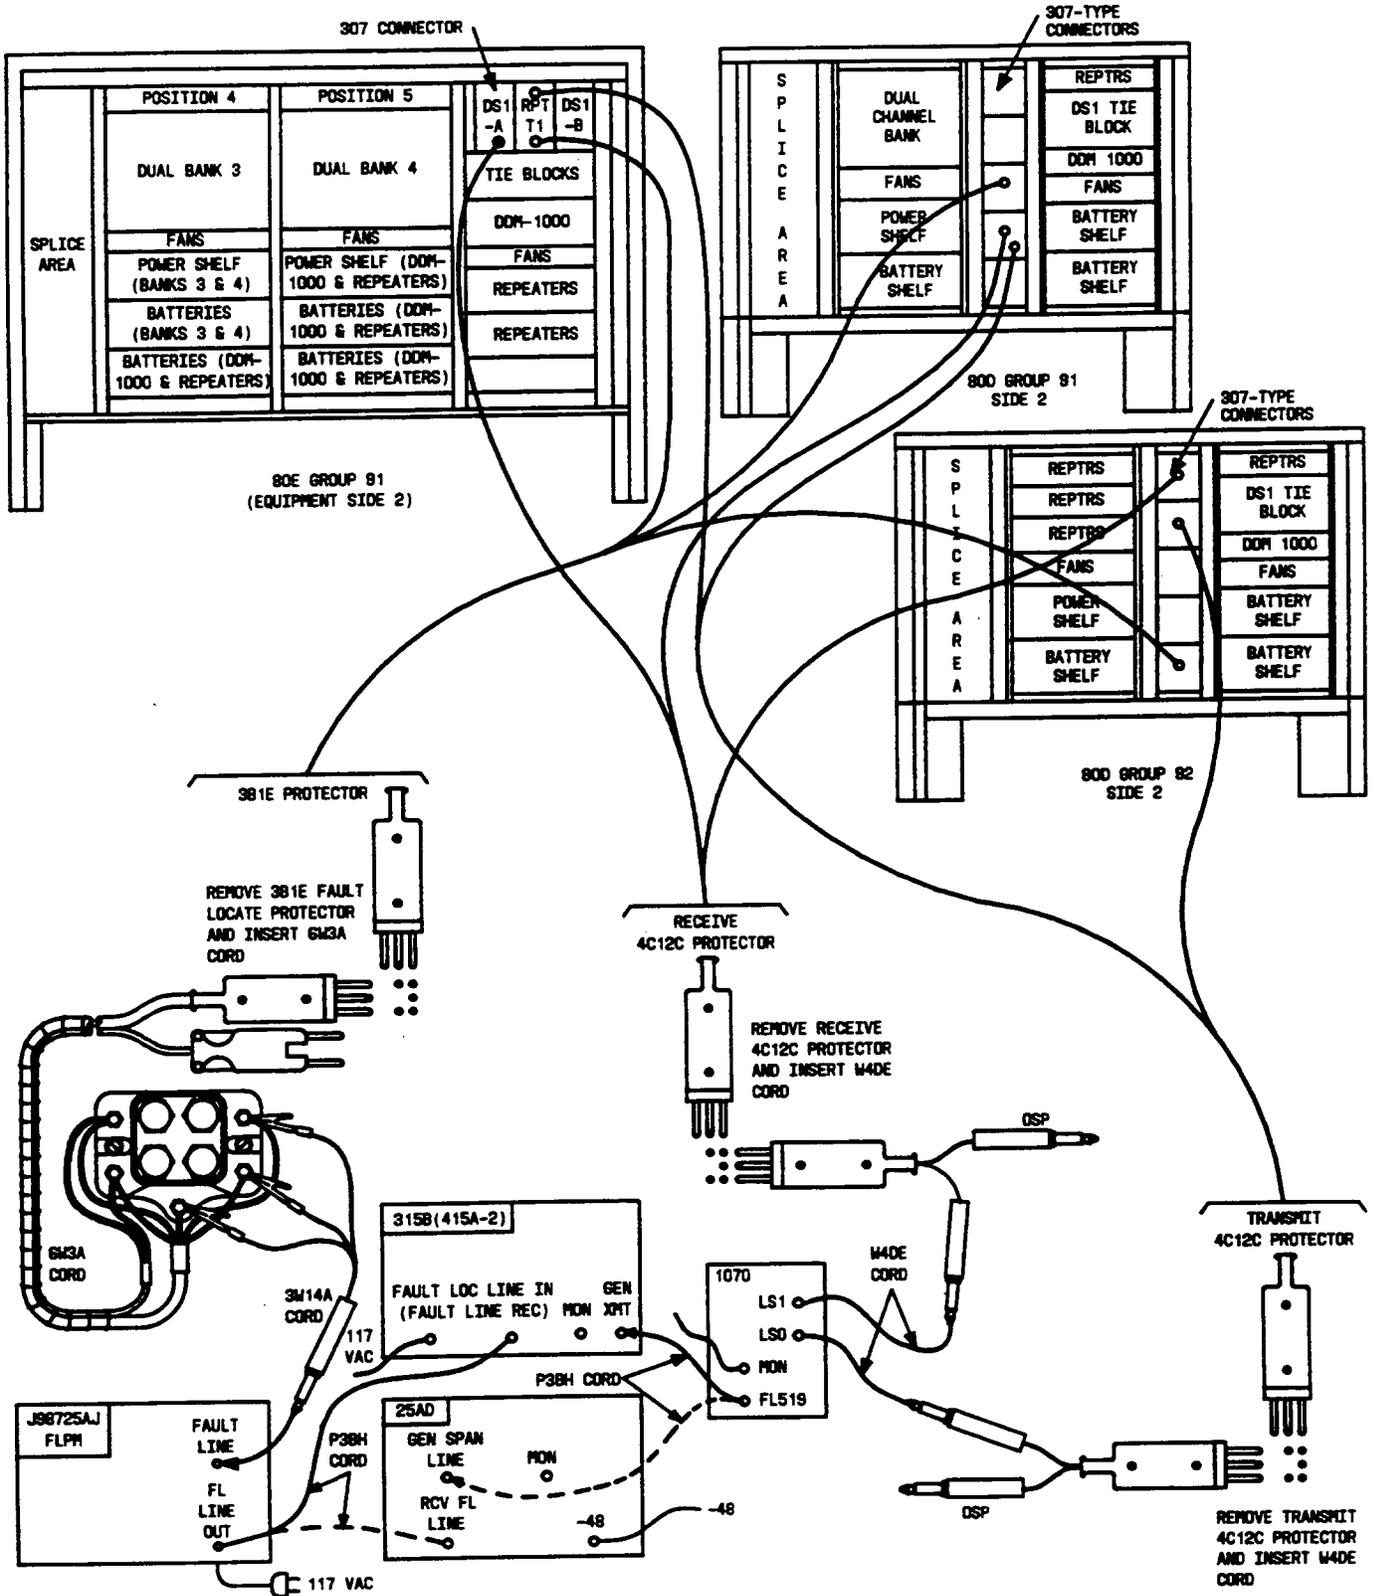

Fig. 6—Typical Fault Locating Equipment Test Connections For T1 Line Access
9. Make fault locating test equipment connections to protectors positions of 307 block on 80-type cabinet frame side 2 as shown in FIG. 6. Refer to Table A, B, or C for protector appearances. Replace fault locate pair 3B1E protector with 6W3A test cord and connect 3W14A cord to FLPM. Remove 3C3E transmit pair protector and connect output of the 107B test set. Remove 3C3E receive pair protector and connect input of the 107B test set. Then continue with Step 11.